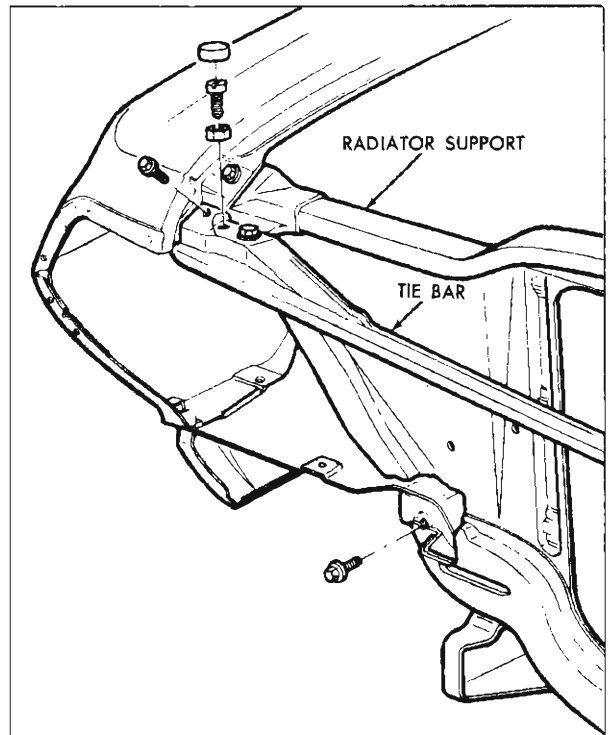

Fig. 136—Radiator Support and Tie Bar
RADIATOR SUPPORT (fig. 136)
1. Referring to Figures 136 and 137: Remove two screws retaining fender to radiator support.